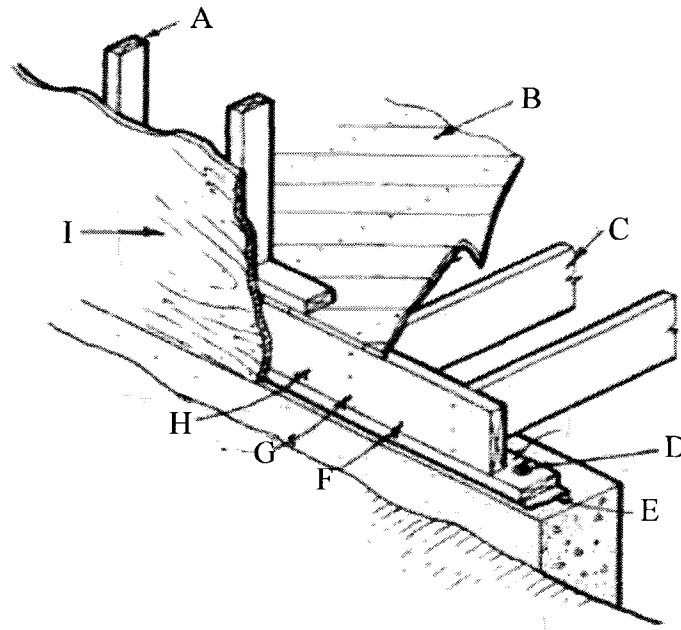

Figure 4
6. (a) Figure 4 shows a pictorial drawing of a part sectional wall and floor section of a building. Identify the parts labelled A through I using the list given. [4.5]